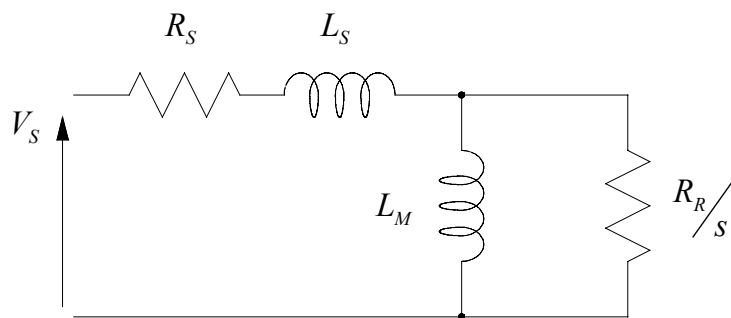

Figure 5 Per-phase equivalent circuit of an induction machine (with negligible rotor leakage inductance)
- (b) For the induction machine model in Figure 5, show that the torque equation $T = 3P\Psi I_R \sin(\delta)$, where P is the number of pole-pairs and Ψ is the magnitude of the air-gap flux-linkage, becomes:
- (c) The induction machine shown in Figure 5 has the following data: